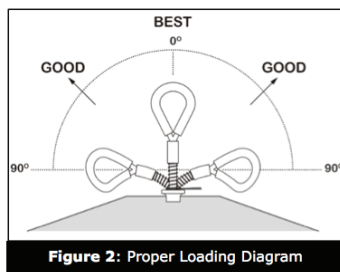

Figure 2: Proper Loading Diagram
4.2 PERMISSABLE DIRECTIONS OF LOADING: The anchorage connector may not be subject to forces outside of allowable range shown in Figure 2.